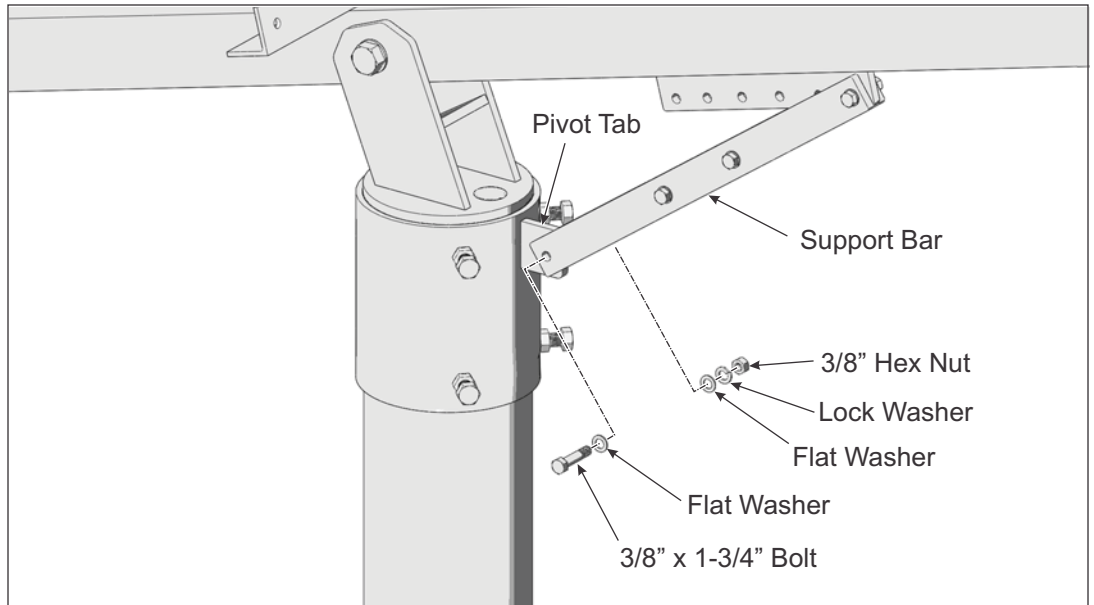

Figure 2-3: Securing Support Bar to Mounting Sleeve
- F. Pivot the Strongback and the Support Bar to align the mounting holes of the Support Bar with its Pivot Tab on the Mounting Sleeve. Slide the Support Bar over the Pivot Tab. Insert the 3/8" x 1-3/4" bolt and one flat washer thru the Support Bar and Mounting Tab and secure it with the remaining flat washer, lock washer and hex nut. **Torque hardware on both ends of Support Bar at 32-34 ft.-lbs.** (See Figure 2-3)